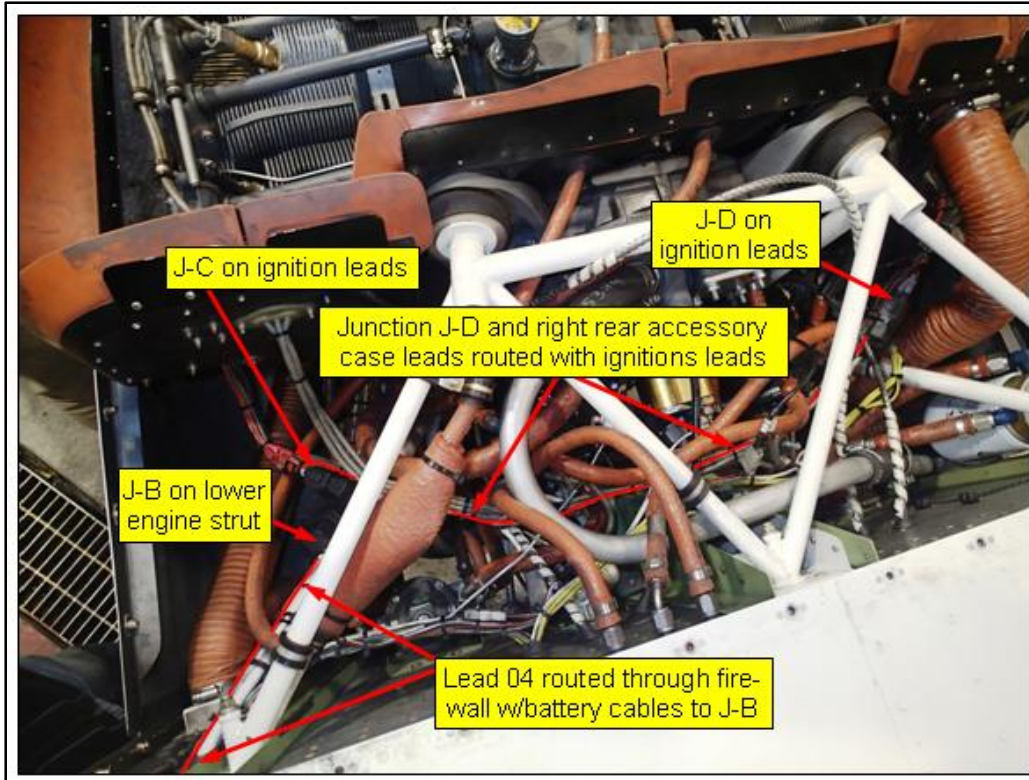

Figure 15 – Top view of engine forward of firewall with examples of junction mounting locations and lead routing.
3. Firewall penetration: Route lead 04 through firewall with battery cables (Figures 15 and 16).
- 04 – Route aft from junction J-B through firewall parallel with battery cables and terminate in junction J-A (Figures 15 and 16).
- 06 – Junction J-C and J-D interconnect lead routed with ignition leads (Figure 15).